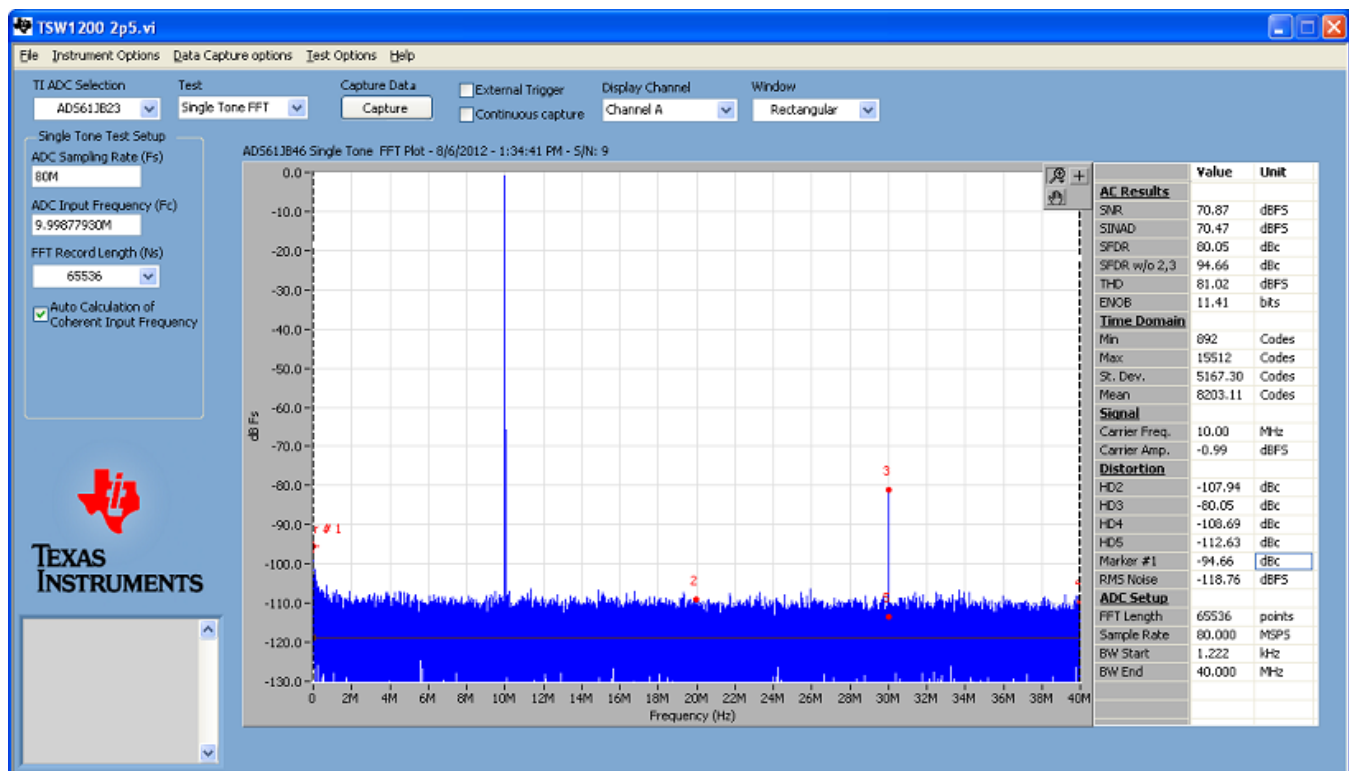

Figure 8. TSW1200 FFT Result
- Observe an FFT result similar to that of Figure 8.